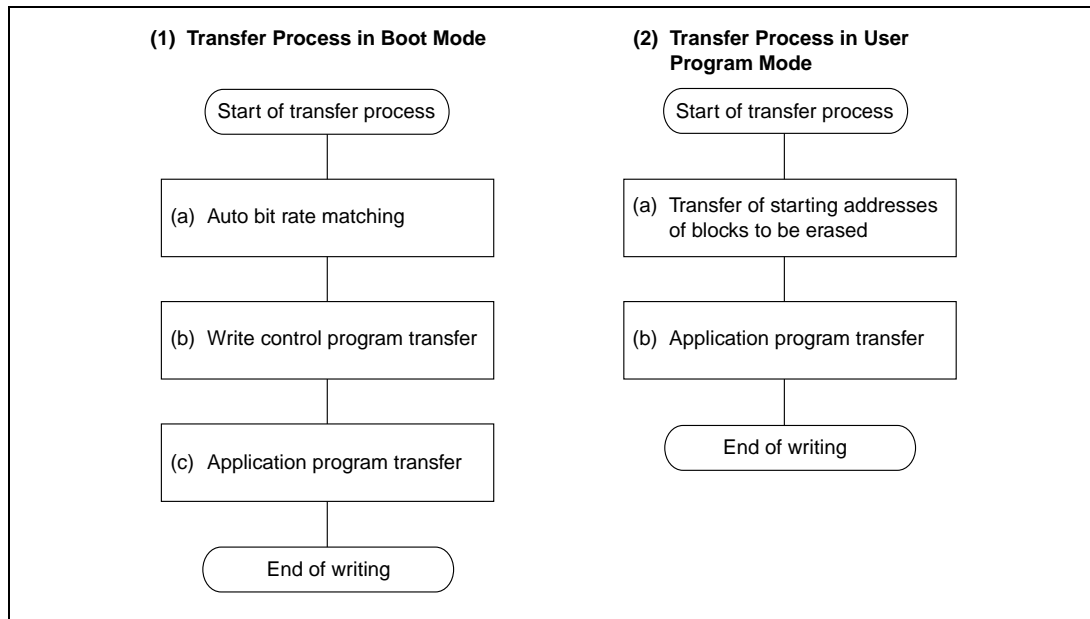

Figure 2.14 On-Board Programming Software Transfers in Boot Mode and User Program Mode
When running boot mode or user program mode, the on-board programming software writes to or erases from the F-ZTAT microcomputer according to the transfer processes shown in Table 2.8. Figure 2.14 shows the transfer processes in each mode as flowcharts. Figure 2.14 (1) and (2) shows details.